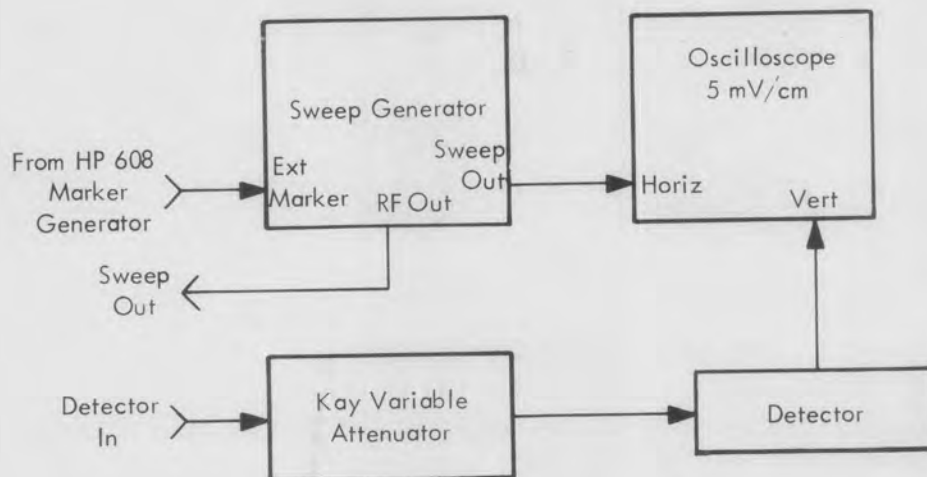

Figure 5-9. Test Equipment Setup for Oscillator Alignment
- a. Connect test equipment as shown in figure 5-9.